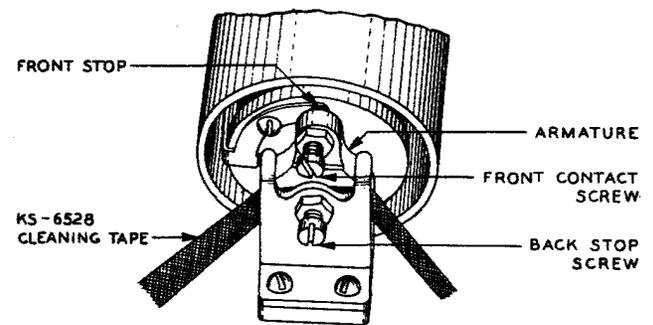

**Fig. 55 – Method of Cleaning Front Portion of Armature Slot and Armature Knife-edge on 89-, 101-, 105-, 108-, 118-, 172-, and 190-type Relays**
**7.18** To clean the armature slot and the armature knife-edge, fold the tape lengthwise and pass it back and forth in the slot with the folded edge (not the outer edge) of the tape in the slot. Use the tape in the slot, both in front and in back of the armature, as shown in Fig. 55 and 56, respectively. After cleaning, see that the armature is properly seated in the slot.